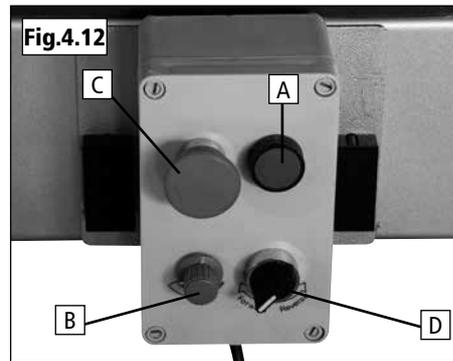

Fig.4.13
2. With access cover open, loosen the belt tightening handle. Rotate the tightening handle to release tension on the belt. Check speed and belt position chart on the headstock to determine torque ratio required (Fig.4.13).
2. The variable speed dial will only increase speed to the highest speed shown depending on belt position. (Fig.4.13).
Pulley Speed Ranges (Fig.4.13)